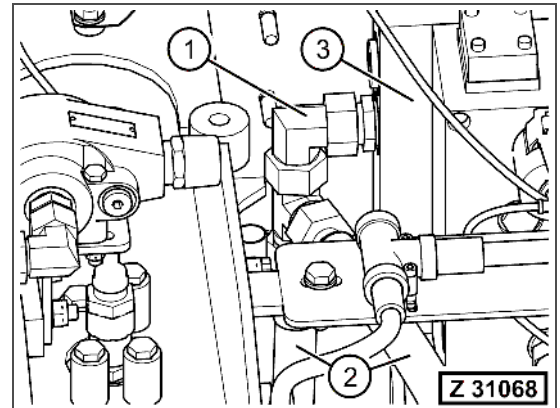

Fig. 3-162
2. Disconnect the elbow union (Fig. 3-162, Pos. 1) from the control block base plate (Fig. 3-162, Pos. 3) to remove the two hydraulic hoses (Fig. 3-162, Pos. 2).